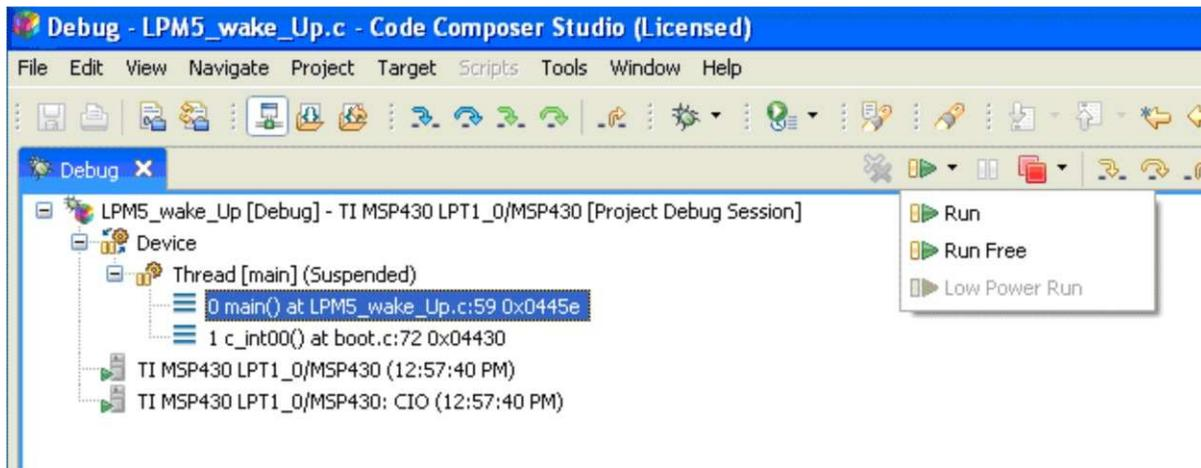

Figure 1. Enable 'Release JTAG on Go' in CCS
- If using CCS, this option is found under the Run icon; use the drop-down menu by clicking the arrow next to the Run icon (see Figure 1) and select the 'Run Free' option.